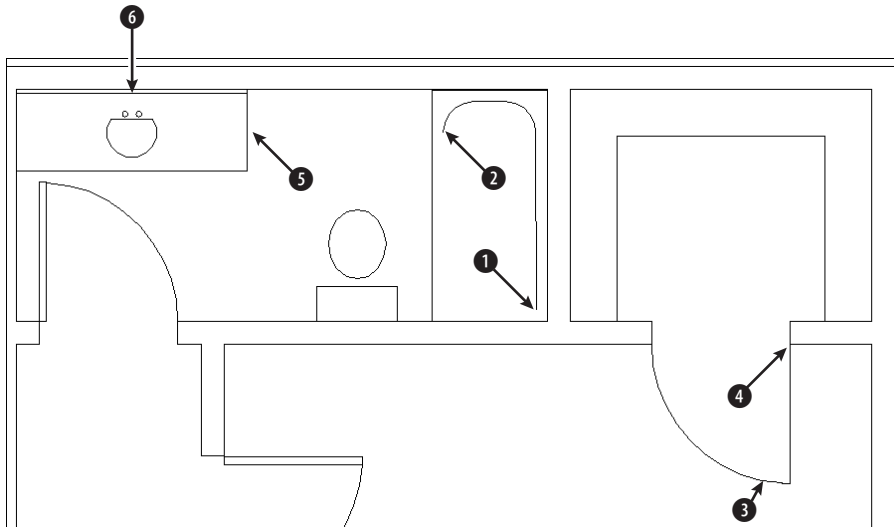
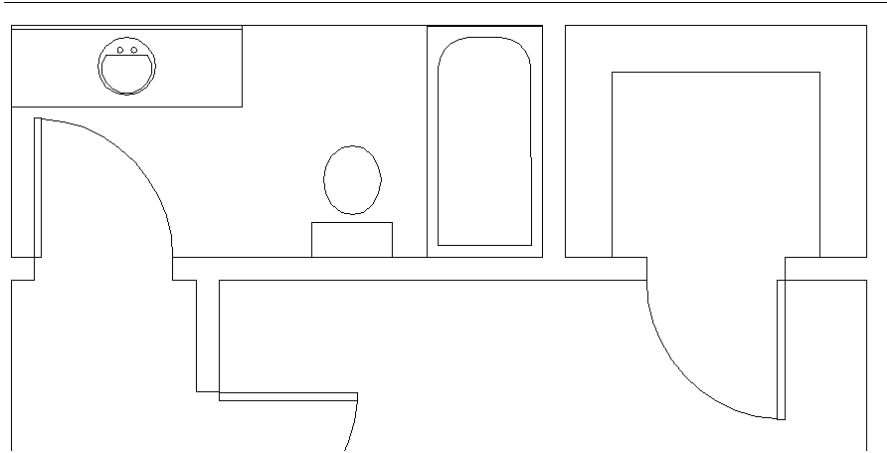

Figure 4-27: The tub, door, and sink to be completed in this plan layout
Figure 4-28: The completed drawing
3. Start the LINE command. At the Specify first point: prompt, pick the endpoint at ❶ in Figure 4-27. Be sure to pick on the endpoint itself, in order to acquire it.
4. At the Specify next point or [Undo]: prompt, pass the cursor over ❷. Move the cursor down a little, and you see the small plus sign showing that this endpoint has been acquired.
5. Move the cursor down until it is to the left of ❶ and vertical to ❷. When you see the tooltip (reading Endpoint: < 270°, Endpoint: < 180°) and the small x marking the intersection of the two points, click to end the line segment.
6. At the Specify next point or [Undo]: prompt, click at ❷ and end the LINE command.
7. Start the LINE command again. At the Specify first point: prompt, pick the endpoint of the arc at ❸ in Figure 4-27. If you're not sure that you found the right endpoint, press Tab until the arc is highlighted. Make sure that you have acquired the endpoint by clicking the endpoint itself or passing the crosshairs over it.
8. At the Specify next point or [Undo]: prompt, pass the cursor over ❹ until you see the small plus sign. Move the cursor to the left until you see the tooltip (reading Endpoint: < 90°, Endpoint: < 180°) and click.
9. At the Specify next point or [Undo]: prompt, pick the endpoint at ❹ and end the LINE command.
10. Start the CIRCLE command. At the Specify center point for circle or [3P/2P/Ttr (tan tan radius)]: prompt, pass the cursor over ❺ and then over ❻ to acquire both midpoints.
13. Save your drawing. It should look like Figure 4-28.